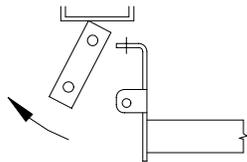

FIGURE 3
- 2. WHILE PIVOTING THE BUMPER BRACKETS OUTWARD, LIFT THE RECEIVER INTO POSITION, CENTERING THE SLOTS IN THE SIDE BRACKETS OVER THE WELDNUTS IN THE FRAME, SEE FIGURE 3.